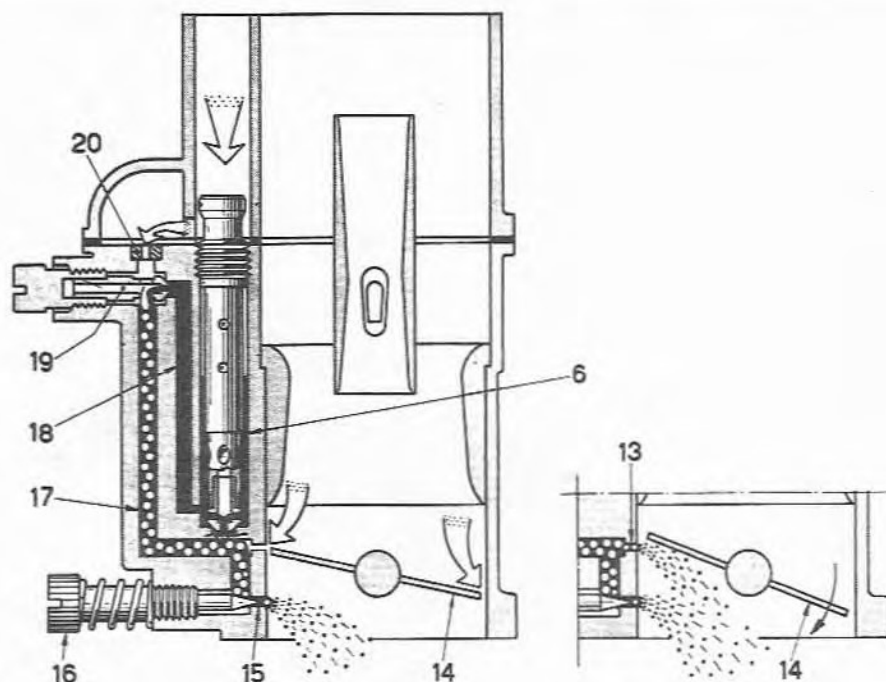

Fig. 13.2 Idling and progression phase (Sec 3)
Refer to Fig. 13.2 and note that when the engine is idling with the throttle valves (14) closed, fuel is drawn through the main jets and emulsion tube wells (6), along channels (18) to the idling jets (19) where it becomes emulsified with air entering through the calibrated bushes (20). The mixture then travels through the channels (17), past the adjustable mixture screws (16), through the idling feed holes (15) and into the carburettor throats at the engine side of the throttle valves (14). The idling mixture screws (16) have tapered ends and can therefore be adjusted to admit more or less mixture as necessary.